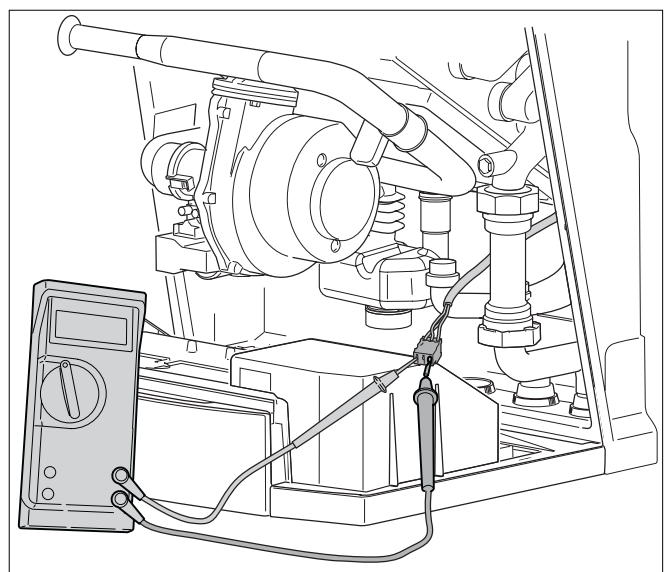

Fig. 47 Checking for 120 VAC voltage
- Connect the volt-ohm-multiammeter to the outer two plug contacts (blue and brown) (see fig. 47).
- Check that while the operating code 0L is displayed, 120 VAC is available on the outer two contacts (blue and brown) of the plug (see fig. 47).